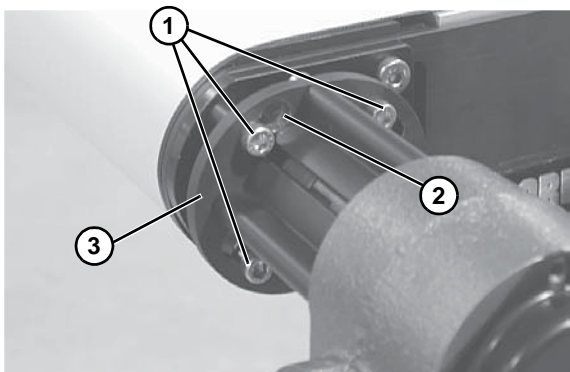

Figure 6
- Slide mounting screws (**Figure 6, item 1**) through slots (**Figure 6, item 2**) in gearmotor bracket (**Figure 6, item 3**). Rotate gearmotor assembly into desired position.